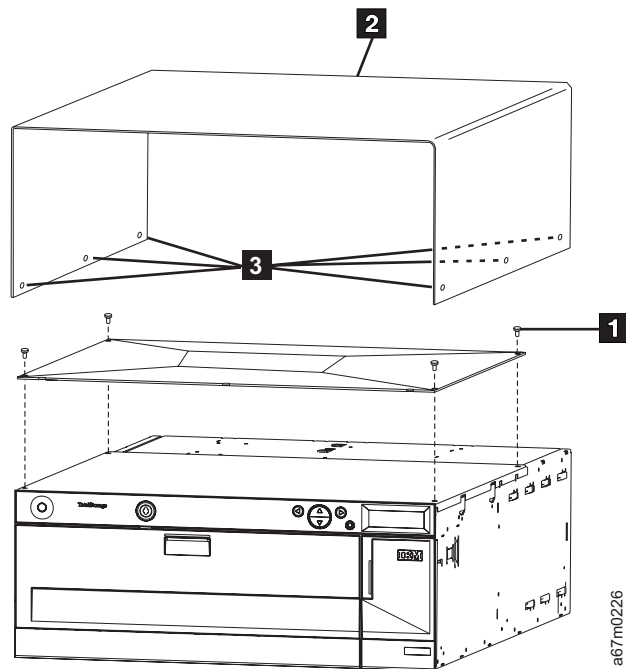

Figure 29. Attachment of protective plate and cover
1. Using a #1 Phillips screwdriver, remove the six, small, black screws (3 per side) from the outside of the decorative cover (**3** in Figure 29).
2. Lift the cosmetic cover (**2** in Figure 29) off the library. Slightly spread the sides and remove the cover from the library.
3. Remove the screws securing the protective plate to the base unit (**1** in Figure 29) and remove the protective plate.